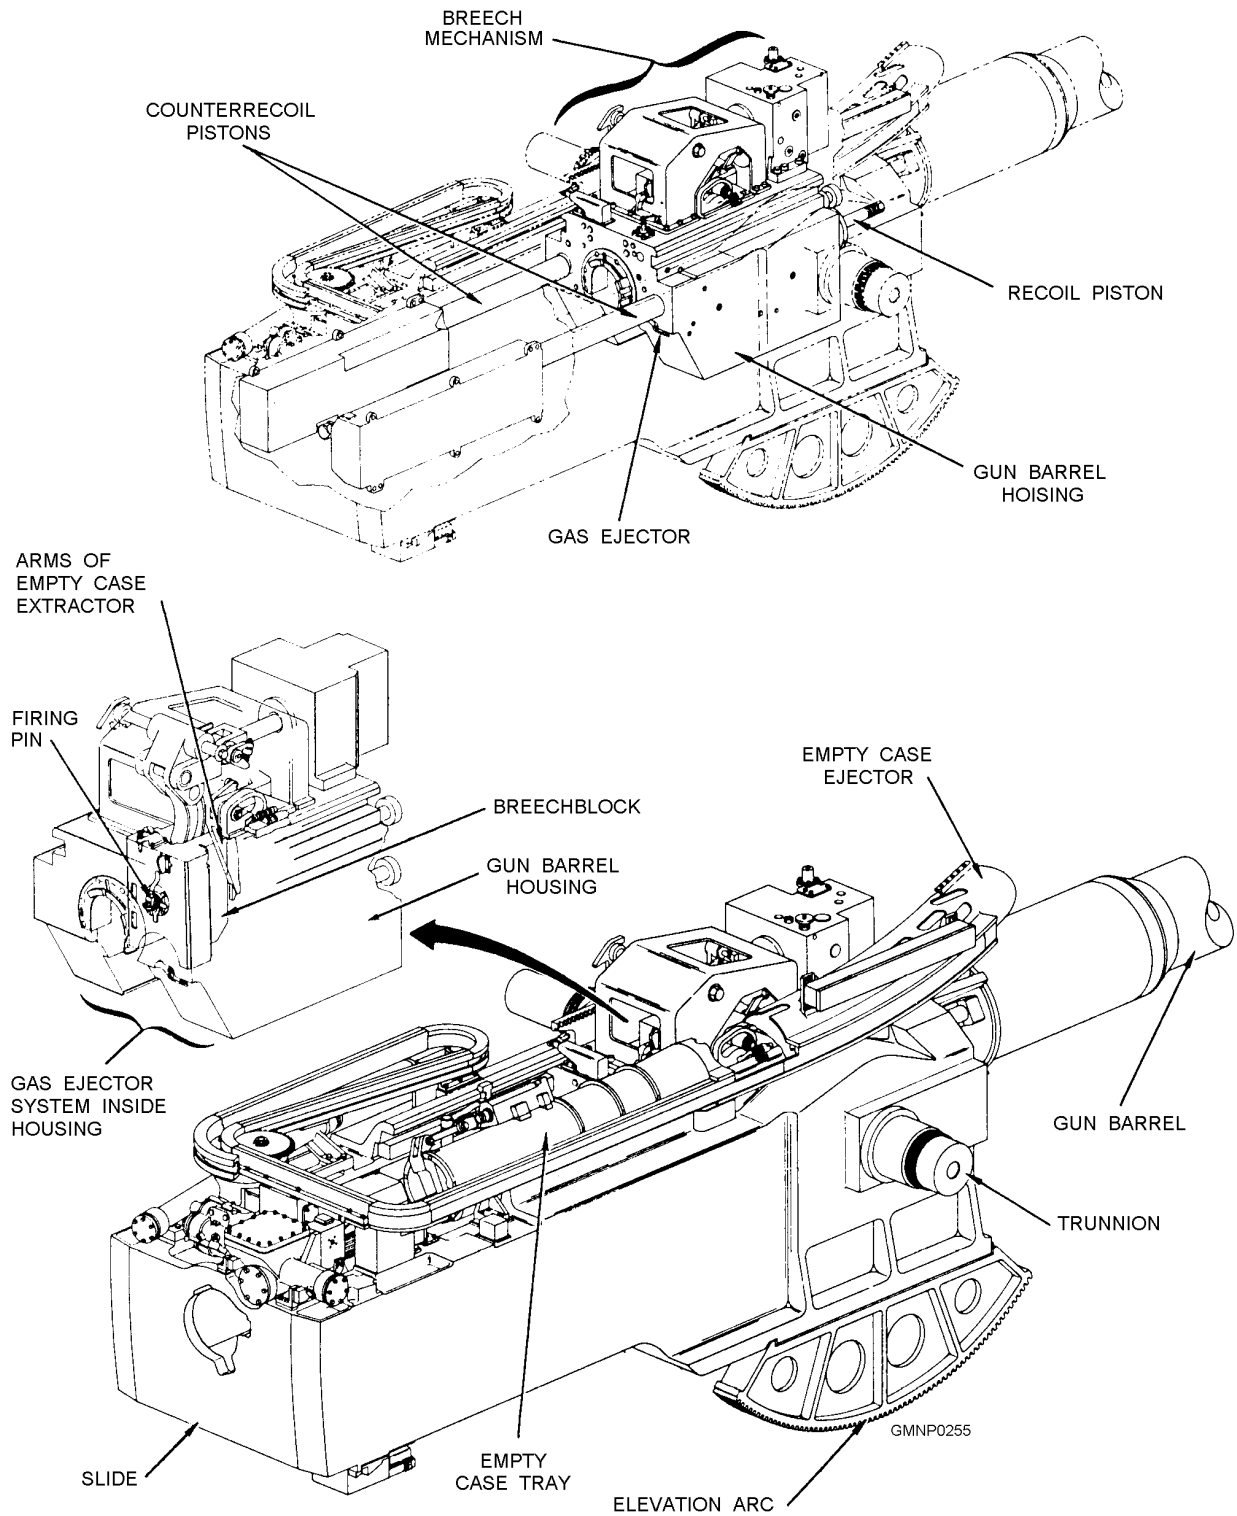

Figure 4-63.—Slide and slide-mounted components.
The breech mechanism (fig. 4-63) opens and closes the breech, extracts spent powder cases or guided projectile (GP) shrouds from the breech, and ejects gas from the gun barrel. The main components are a breechblock, an empty case extractor, and a gas ejector.